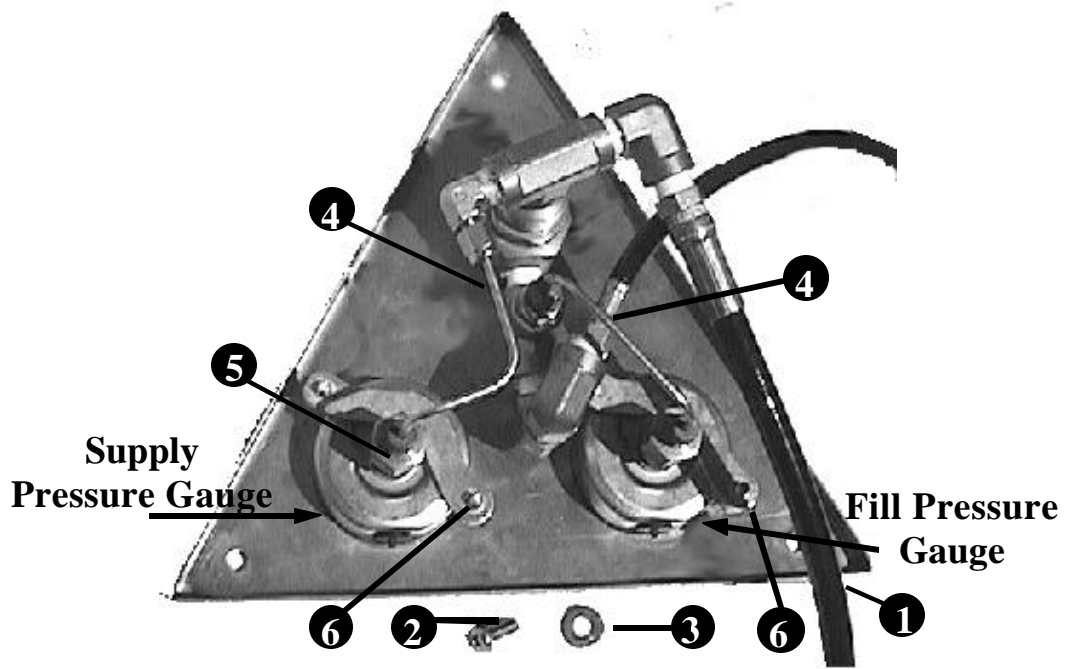

Figure 6-1. Underside of Gauge Panel
- a. To replace the fill gauge of supply gauge PRS-3: Disconnect supply hose (1) from the supply cylinder. Remove the three machine screws (2) and washers (3) that hold the gauge panel to the frame. Remove gauge panel from unit. Turn the gauge panel upside down on your work surface, and disconnect the small tube (4) from the gauge fitting (5). (Figure 6-1).
- b. Remove the gauge from the panel by loosening the two screws (6) from clamp on the rear of the gauge.
- c. Secure the fitting (5) in a vise and remove the gauge from the fitting.
- d. To reinstall the gauge, apply a wrap of Teflon tape to the gauge threads (be careful to not allow this to lap below the bottom thread as this may damage the system) and install fitting (5) in gauge and install gauge in panel using two screws (6).
- e. Reattach panel to unit with three screws (2) and washers (3).
- f. Reconnect supply hose (1) to supply cylinder.